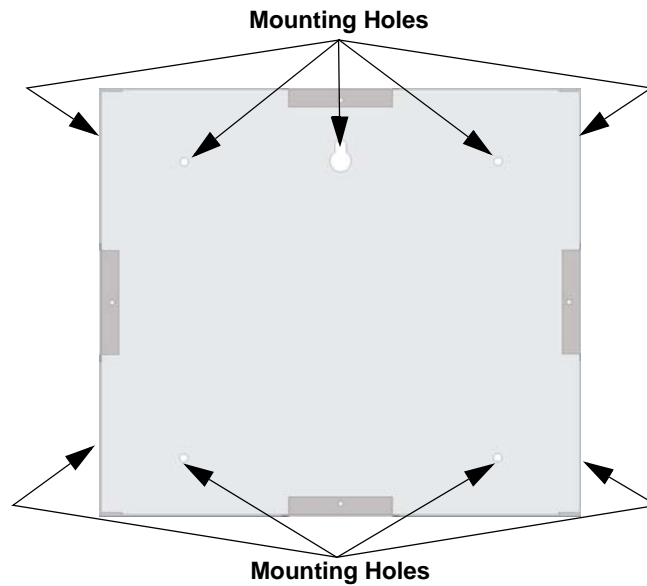

Figure 4.14 Back Box Mounting Holes
1. The back box dimensions are 9-9/32" w x 8-3/8" h. The minimum depth 2". The back box can be mounted prior to the complete installation of the 6855 using any of the mounting holes shown in Figure 4.14.
1. The back box dimensions are 9¼" W x 8 3/8" H. The minimum depth required is 2". The back box can be mounted prior to the complete installation of the 6860 using any of the mounting holes shown in Figure 4.14.